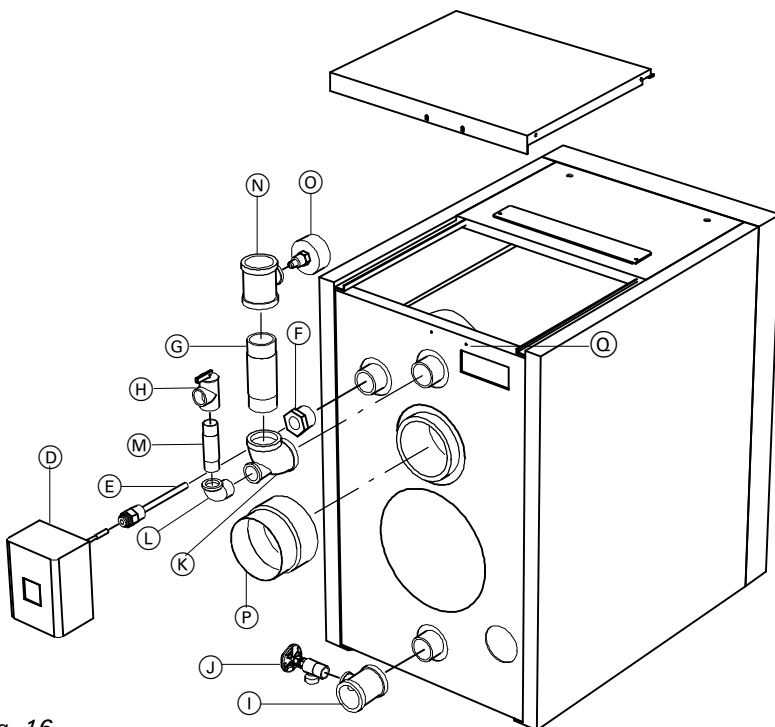

Fig. 16
3. Connect system supply to (A) using NPT fittings, as shown in Fig. 16. Connect the system return to (C) using NPT fittings, as shown in Fig. 16.
4. Install temperature and pressure gage (O) with brass extension coupling in 1/2" opening as shown in Fig. 16. Use thread sealing compound such as Loctite or Teflon tape.